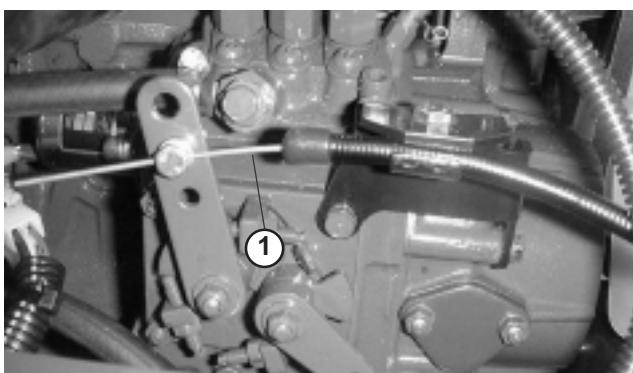

**Figure 43**
1. Condition and Tension – Check condition and tension of belts (Fig. 43) after every 100 operating hours.